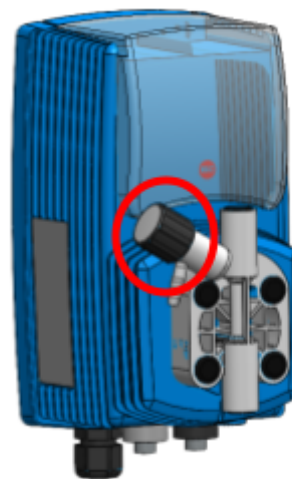

Figure 49.
- Bleeding: Turn the bleed valve (see Figure 49) on the pump head to the open position.